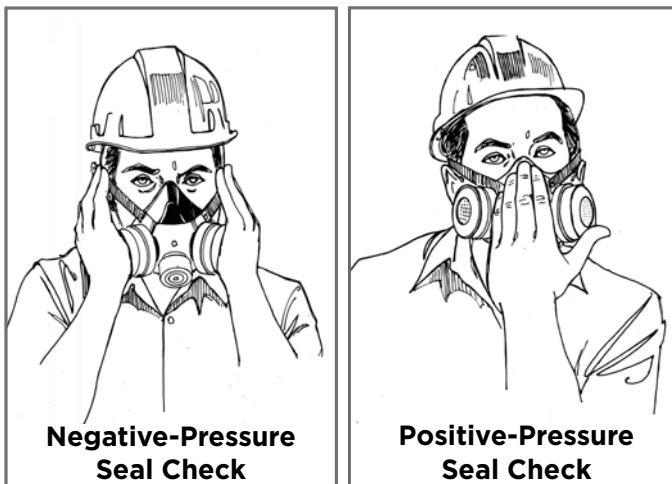

Figure 11: User Seal Checks
- 1. Negative-Pressure Seal Check** — The wearer puts on the respirator and adjusts it so that it feels fairly comfortable. Then the air inlets are blocked with the hands or a plastic cover, and the wearer inhales gently and holds his breath for five seconds. If the respirator is properly fitted, it should collapse slightly and not permit any air into the facepiece. If leakage is detected, the mask should be readjusted and the test repeated until the fit is satisfactory (Figure 11).
- 2. Positive-Pressure Seal Check** — The wearer puts on the respirator and adjusts it so that it feels fairly comfortable. Then the exhaust port of the respirator is covered and the wearer tries to exhale gently. The facepiece should puff away from the wearer, but there should be no leakage (Figure 11).